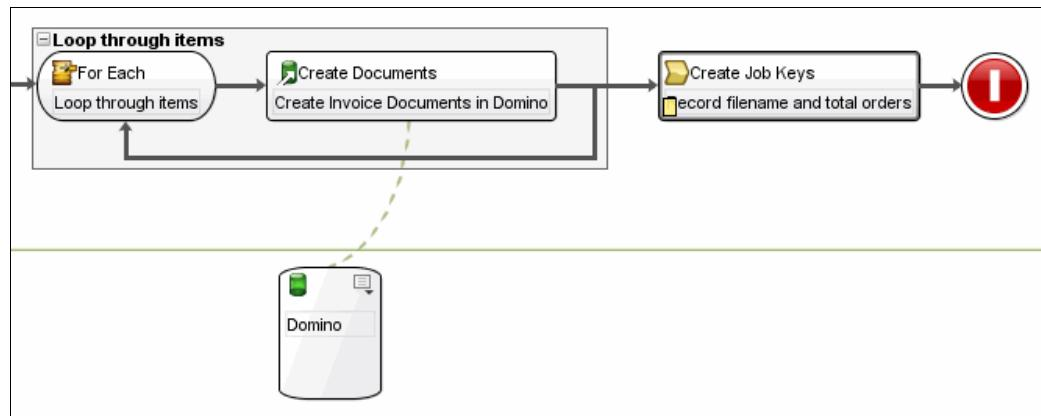

Figure 12-78 Create Job Keys activity
- From the Activities tab, drag **Utilities → Create Job Keys** to the right of and outside the For Each block. Rename it to Record filename and total orders. See Figure 12-78.